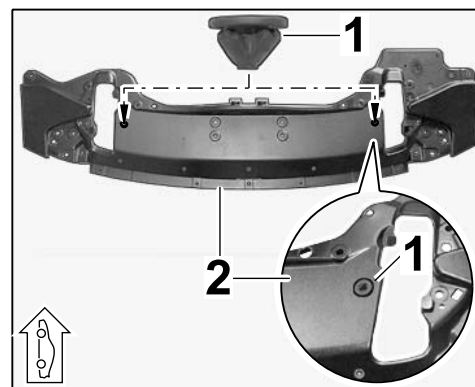

Figure 4
- 3.1.1 Fit two rubber mountings in the mounting bracket (right: ⇒ *Figure 4 -inset-*).